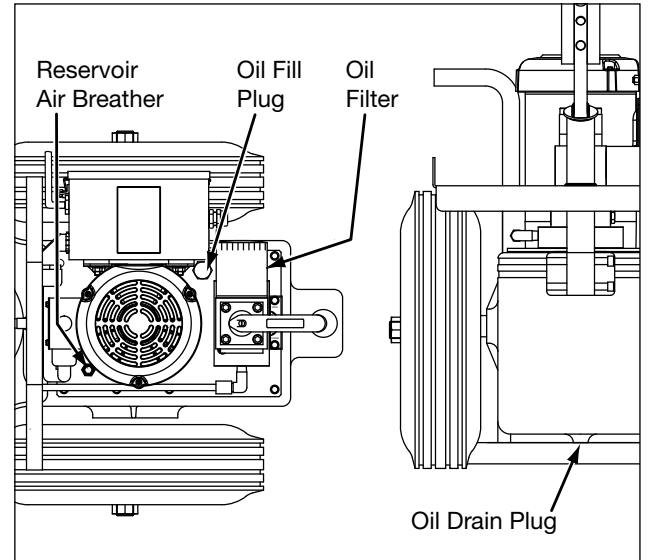

Figure 7, Oil Change
6.2 Changing the Oil (See Figure 7)
4. Remove, clean and reinstall the reservoir air breather. It is mounted on the reservoir top cover plate. See Figure 7 for location.